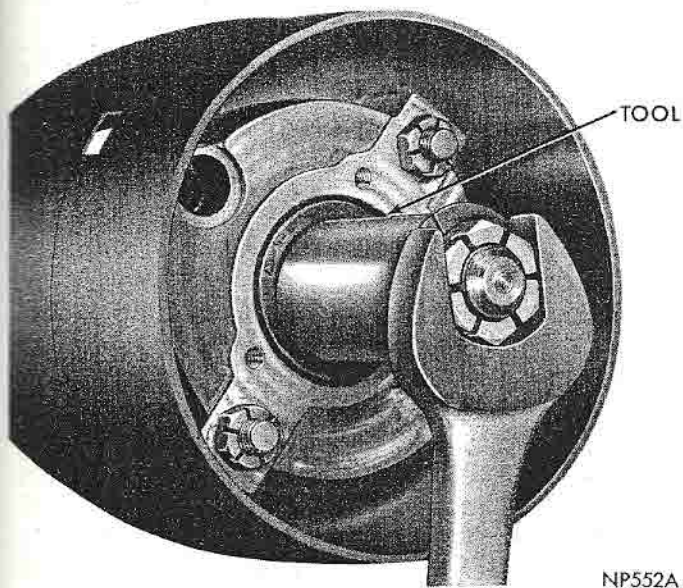

Fig. 9—Pulling Shaft Through Bearing
(12) Install snap ring in lower groove on upper end of steering shaft. Slide shaft into column and through upper bearing **by hand**. Install Tool C-3879, washer and steering wheel nut (Fig. 9), pull shaft through bearing, then install upper snap ring.